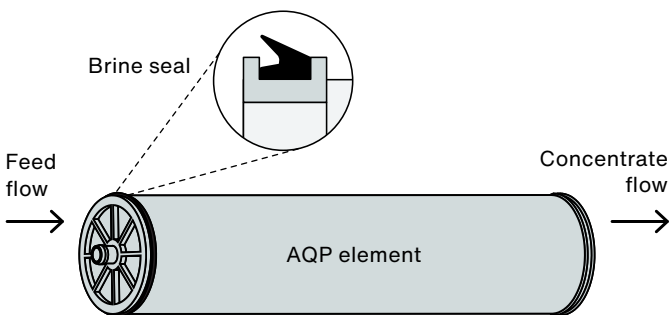

Figure 1: Orientation of brine seal.
1. RO elements are loaded with the brine seal facing the upstream direction (**Figure 1**). It is good practice to load elements from the feed side, so the first element loaded is the lag/tail element and the last element loaded is the lead element. During the process, it is recommended to keep the RO elements in their plastic bags until they are loaded. Make sure to maintain a loading record of each element's serial number, vessel location, and position.